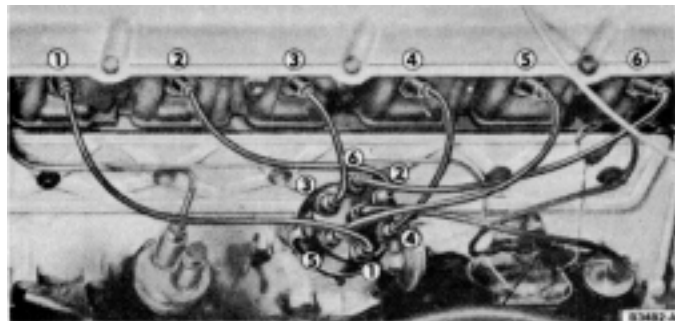

FIG. 13. Engine Timing and Cylinder Firing Order - Typical
**Timing Mark Locations** The timing marks and their locations are illustrated in Figure 13.